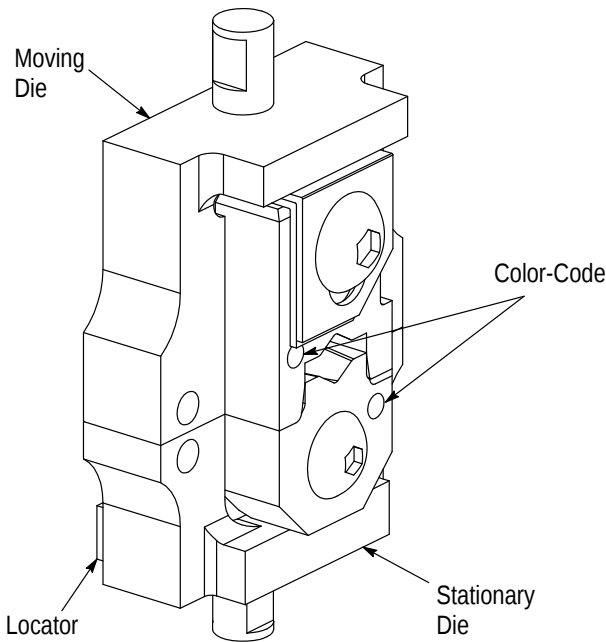

Figure 1
2. Turn both insulation crimp adjustment spacers so that they fit into the notch in the side of the die. See Figure 1. This is the No. 3 or loose position. *(The insulation crimper screw must be loosened to make this adjustment.)*
2. Turn both insulation adjustment spacers of the moving die so that they fit into the notch in the side of the die. See Figure 1. The die is now set in the No. 3 or loose position. This will provide access to the wire barrel dies for plug gaging.